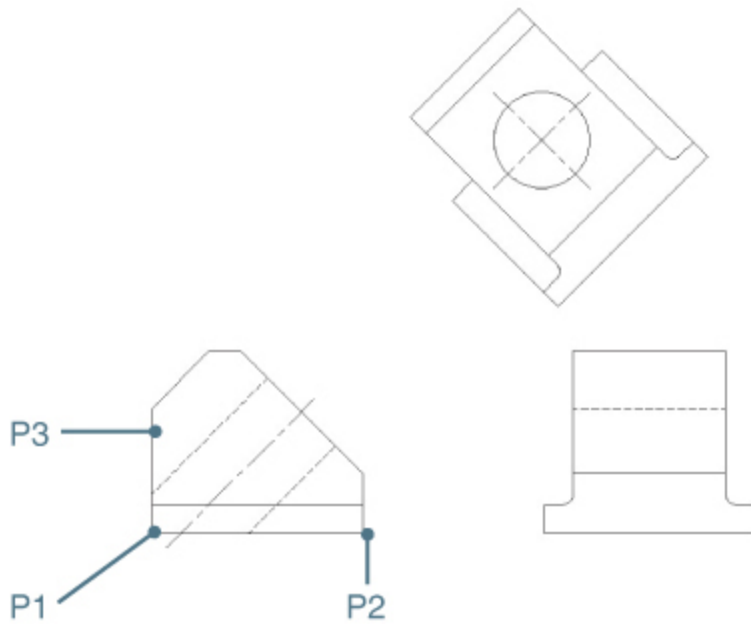

Figure 13-11
- 3** Pick the endpoint P1 shown in Figure 13-11. AutoCAD prompts you to *Specify second extension line origin:*.
- 4** Pick the endpoint P2 shown in Figure 13-11. AutoCAD prompts you to *Specify dimension line location or* \downarrow and starts dragging the dimension line.
- 8** Pick the line at P3 shown in Figure 13-11. AutoCAD places the defpoints at the ends of the line and prompts you to *Specify dimension line location or =*.